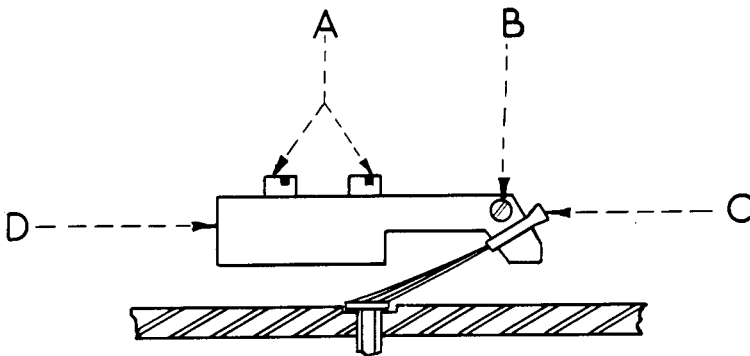

FIG. 12
"18. Feed Alarm Brush (Fig. 12) (when fitted)
18.1 With perforated tape in the machine, check that the tip of brush C, Fig.12, lies centrally in the tape feed hole.
In Booklet 92 *only*, after Fig. 11, insert attached new Fig. 12.